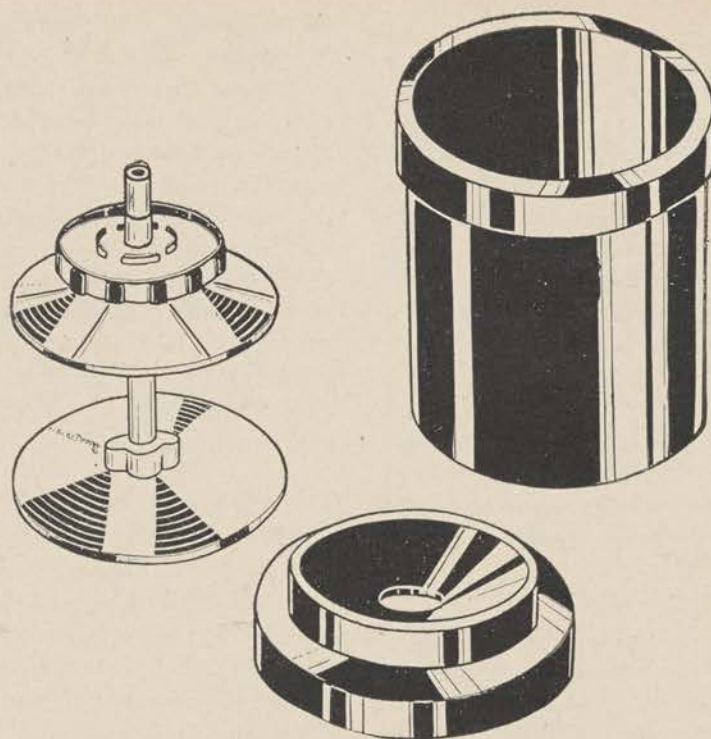

Figure 271.
a. Either a stainless steel or bakelite adjustable tank may be used (fig. 271). The loading of the tank must be done in complete darkness for panchromatic film. Orthochromatic film (Verichrome or Plenachrome) may be exposed to a dark red safelight, such as one with a Wratten Series 2 filter. Read the instructions in the film package concerning the proper safelight. These instructions will also mention that total darkness is necessary, if that is true. To be absolutely sure, ask at the photographic supply store when you buy film. Practice loading the tank in bright light with a roll of waste or developed film. Read the instructions supplied with the tank and follow them very carefully. The commonest tank has matched spiral grooves at the top and bottom of the reel. Hold the film between thumb and forefinger of the right hand and the reel in the left hand. Thread the beginning of the film into the groove and push gently. If the grooves are wet the film will stick. Feed the film into the reel until it is completely threaded. When you become practiced at loading with the dummy film in bright light, try a roll in the darkroom. Before starting